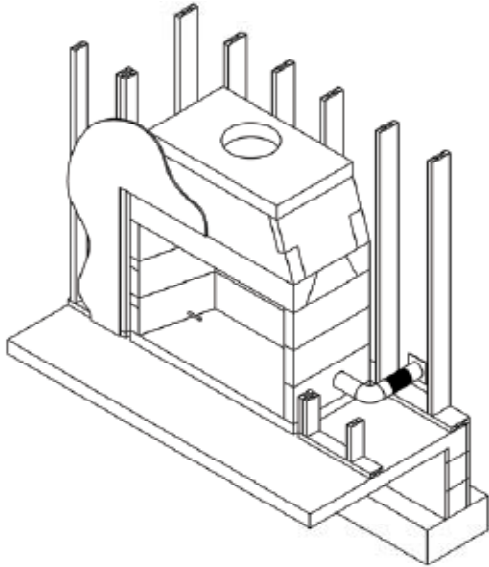

Figure 24
**Clearance to Drywall:** Drywall can be placed directly in contact with the front of the IBV firebox and smoke dome. (Figure 24) With the Isokern firebox/smoke dome set flush with the interior face of wall framing, drywall can be hung on the framing members and pass across the face of the IBV smoke dome and in contact with it. If necessary, the drywall can be affixed to the face of the Isokern smoke dome with drywall screws, maximum length one inch (1") - do not use nails.